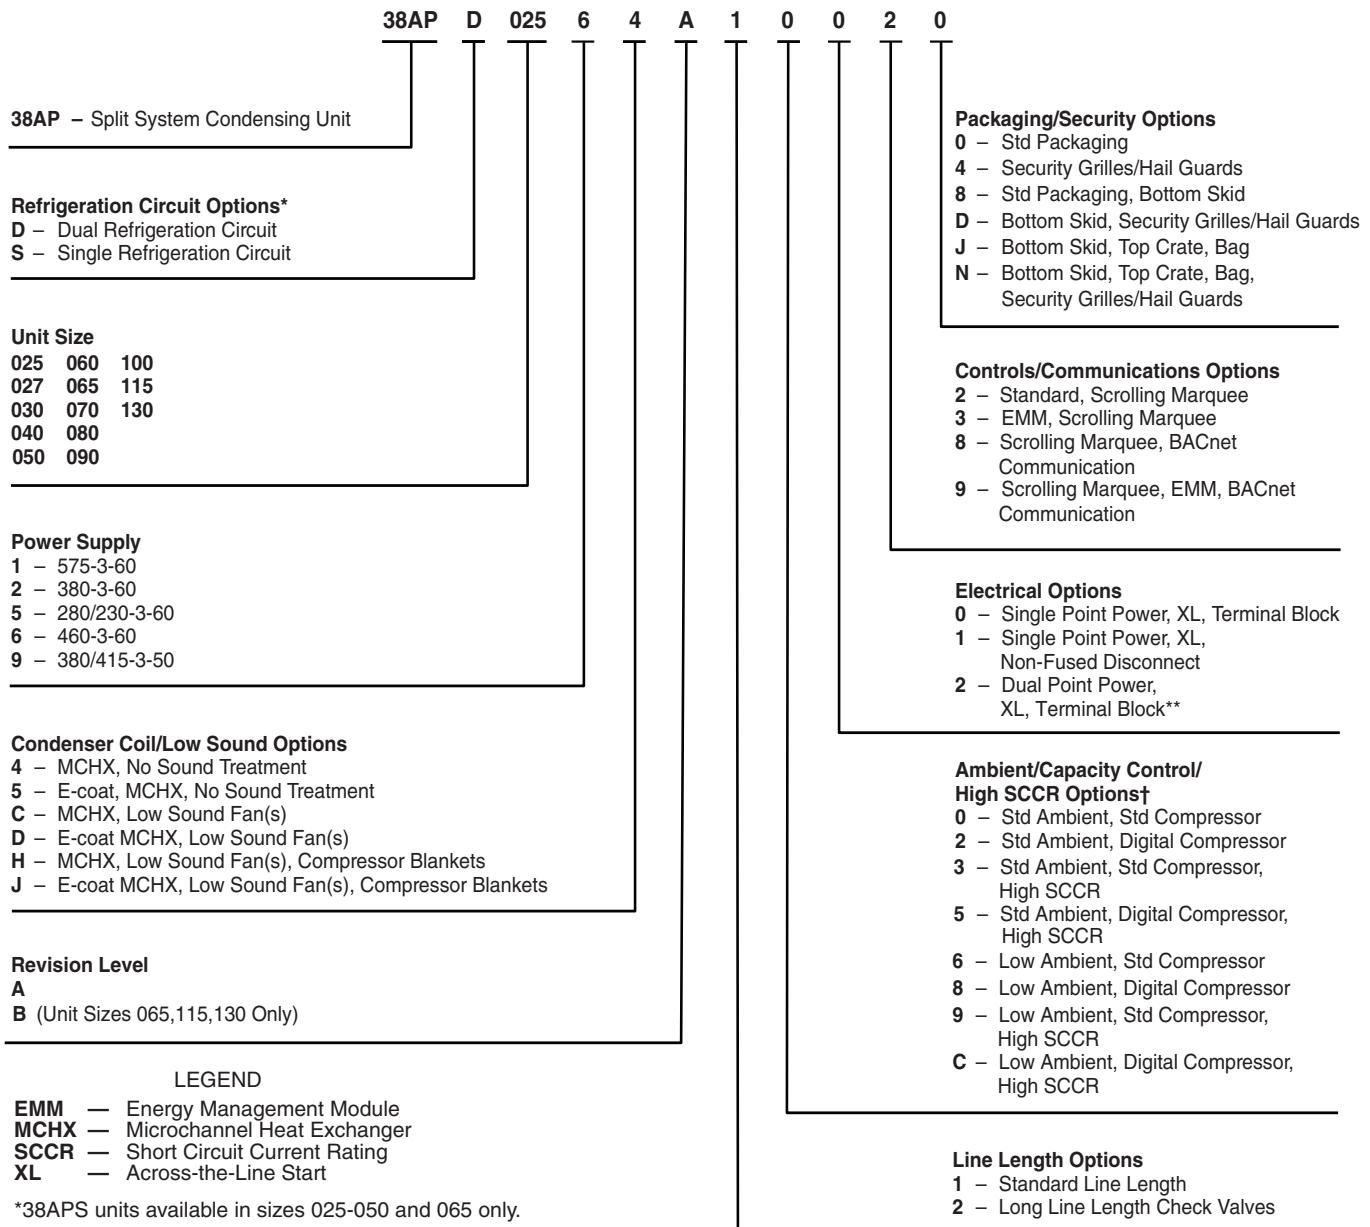

Fig. 1 — Model Number Nomenclature
Step 1 — Inspect Shipment — Inspect unit for damage upon arrival. If damage is found, immediately file a claim with the shipping company. Verify proper unit delivery by checking unit nameplate data and the model number nomenclature shown in Fig. 1. See Tables 1-4 for unit physical data.